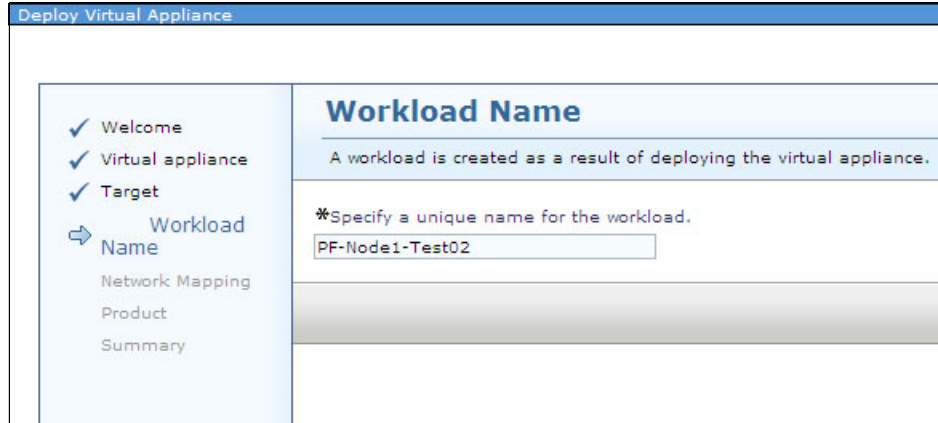

Figure 10-145 Entering the workload name
5. Enter the workload name as shown in Figure 10-145 and click **Next**.